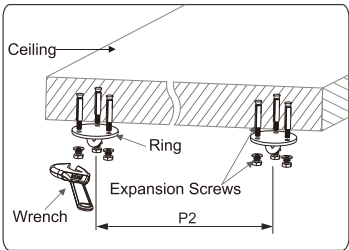

Figure 2
- 2. Fix the rings (not accessories) on the ceiling according to the distance P2 between two hanging pieces of brake mechanism (note: make sure each of rings can endure at least 200Kg to avoid falling down) (figure 2).